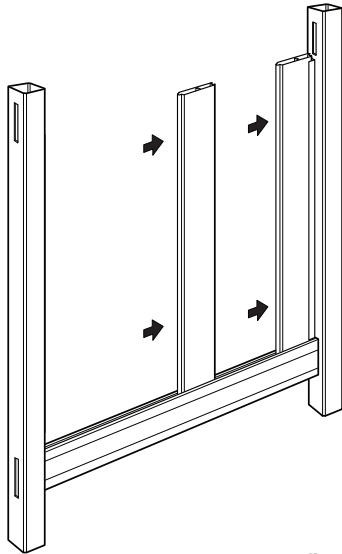

fig. 7
STEP 5 – Continue installing each picket. Make sure the tongue-and-groove pickets fit tightly together without gaps. Repeat with each picket until there is one picket left (fig. 7).